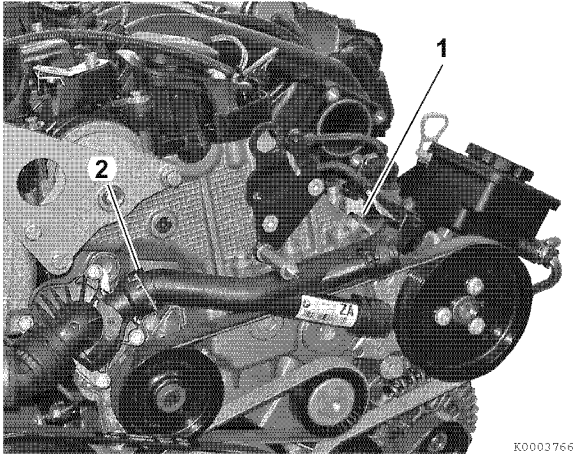

Figure 8-8
3. Remove coolant pipe retaining bolt (1, **Figure 8-8**).
4. Disconnect coolant pipe (2, **Figure 8-8**) from thermostat housing.